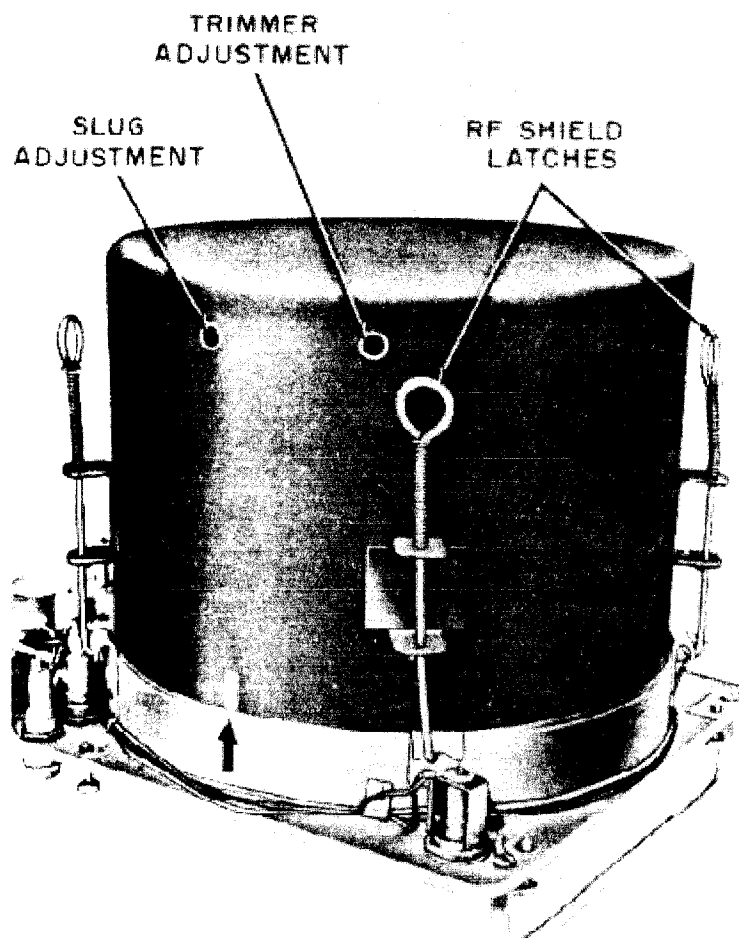

Figure 7-3. RF Shield Assembly
(2) Locate the four RF shield latches. (See figure 7-3.)
(3) Depress and rotate each latch through 90°.
(4) Release latch.
(5) Remove the shield assembly by lifting straight up.